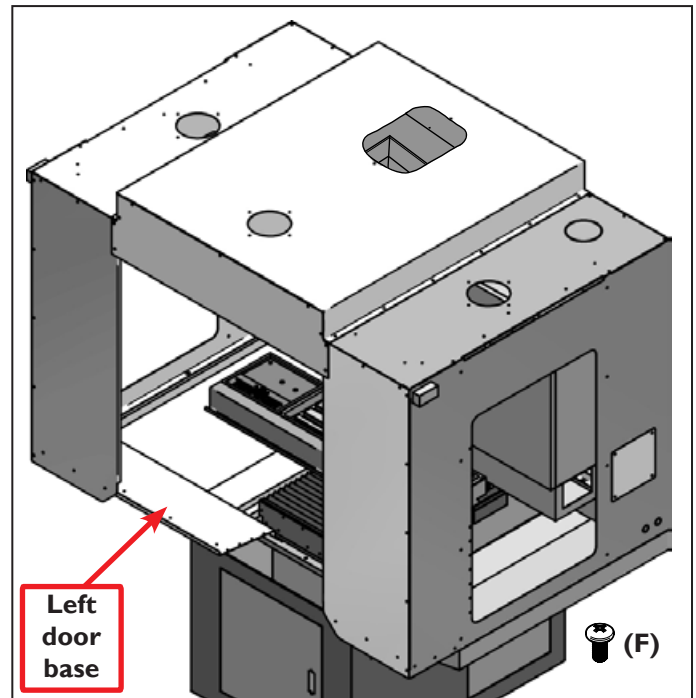

Figure 17
39. Place the Left Door Base (E.19) to where the large flange is inside of the chip pan (see **Figure 17**). Loosely fasten with (F) screws along the front left and left side panels.
41. Once the holes are drilled and tapped, fasten with (C) screws. Once all screws are in, tighten securely.